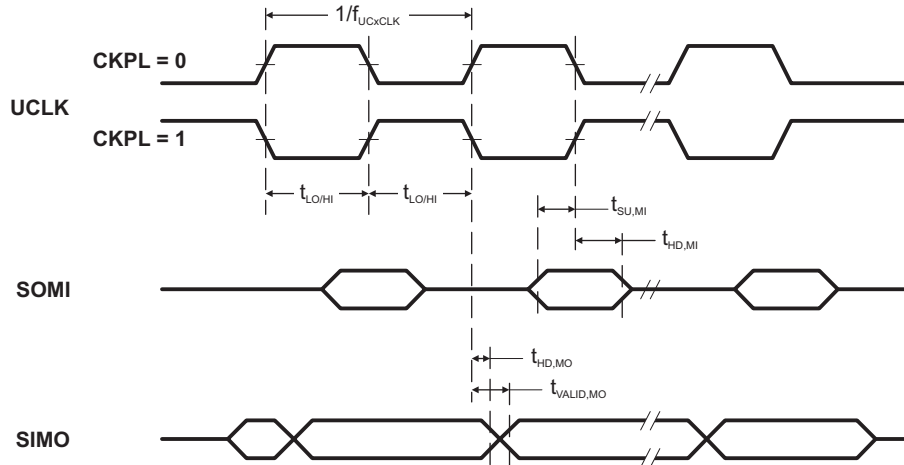
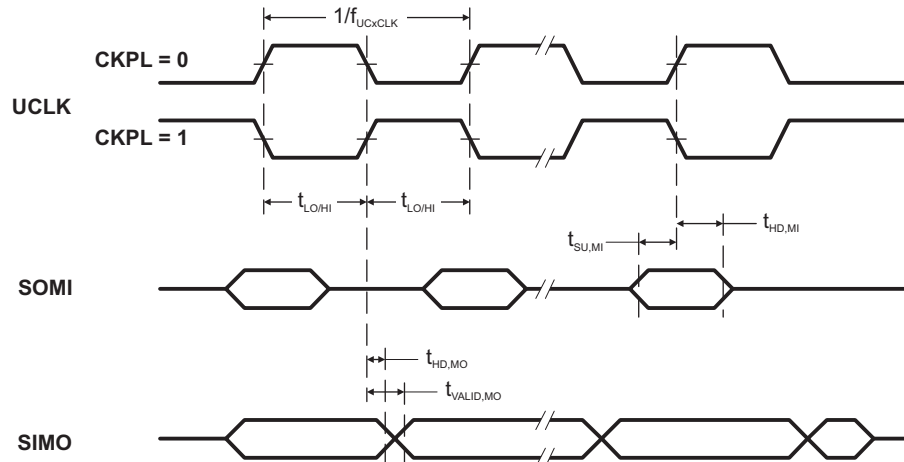

Figure 5-11. SPI Master Mode, CKPH = 0
Figure 5-12. SPI Master Mode, CKPH = 1
(see Note (1), Figure 5-11 and Figure 5-12)
(2) Specifies the time to drive the next valid data to the SIMO output after the output changing UCLK clock edge. See the timing diagrams in Figure 5-11 and Figure 5-12.
(3) Specifies how long data on the SIMO output is valid after the output changing UCLK clock edge. Negative values indicate that the data on the SIMO output can become invalid before the output changing clock edge observed on UCLK. See the timing diagrams in Figure 5-11 and Figure 5-12.